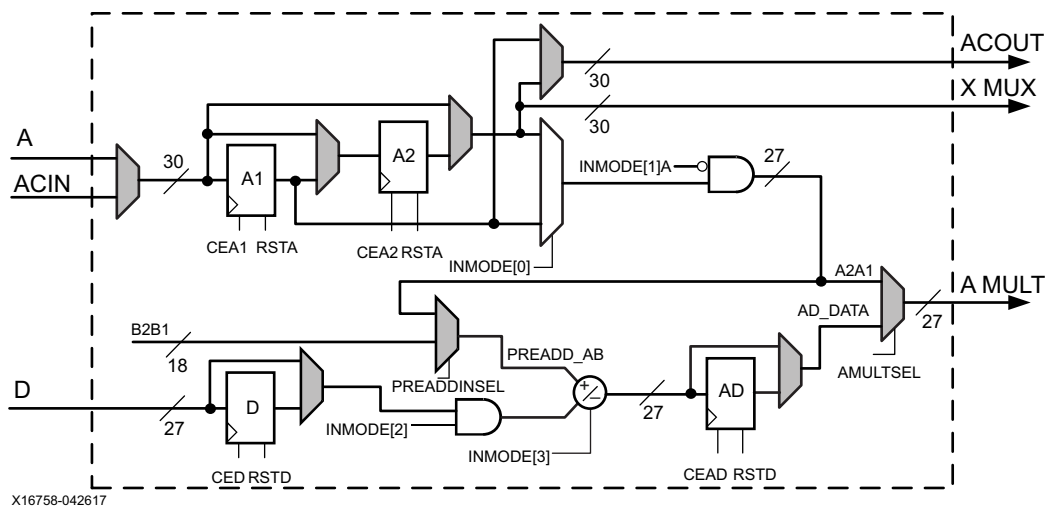
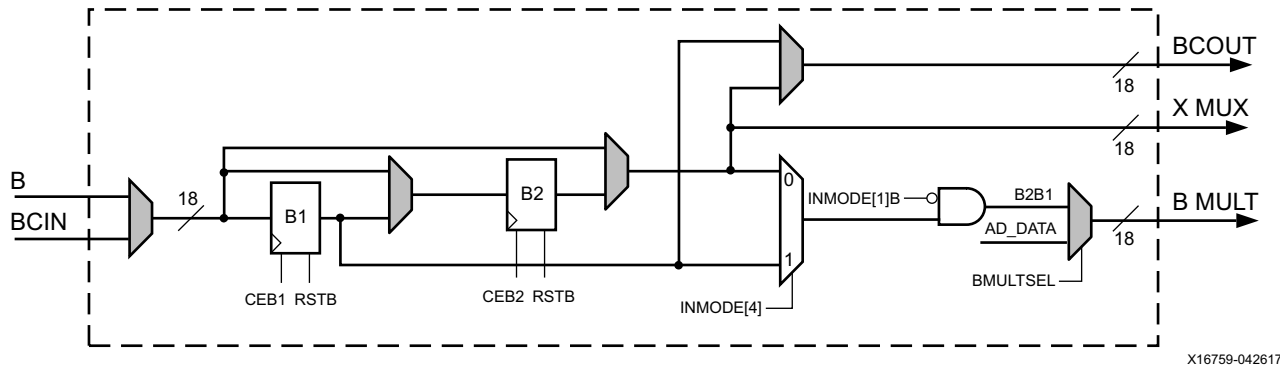

Figure 2-5: Dual A, D, and Pre-Adder Logic
Figure 2-6: Dual B Register Logic
The A and B input port and the ACIN and BCIN cascade port can have 0, 1, or 2 pipeline stages in its datapath. The dual A, D, and pre-adder port logic is shown in Figure 2-5. The dual B register port logic is shown in Figure 2-6. The different pipestages are set using attributes. Attributes AREG and BREG are used to select the number of pipeline stages for A and B direct inputs to the X multiplexer to the ALU, and INMODE[0] can dynamically change the number of pipeline stages to the multiplier. Attributes ACASCREG and BCASCREG select the number of pipeline stages in the ACOUT and BCOUT cascade datapaths. The allowed attribute settings are shown in Table 3-3, page 53. Multiplexers controlled by configuration bits select flow through paths, optional registers, or cascaded inputs. The data port registers allow users to typically trade off increased clock frequency (i.e., higher performance) vs. data latency.
- INMODE[1]A and INMODE[1]B are internal signals defined by the user settings of PREADDINSEL and INMODE[1]. If PREADDINSEL=A, INMODE[1]A (see Figure 2-5, page 23) is INMODE[1] and INMODE[1]B (see Figure 2-6, page 24) is 0. If PREADDINSEL=B, INMODE[1]B is INMODE[1] and INMODE[1]A is 0.